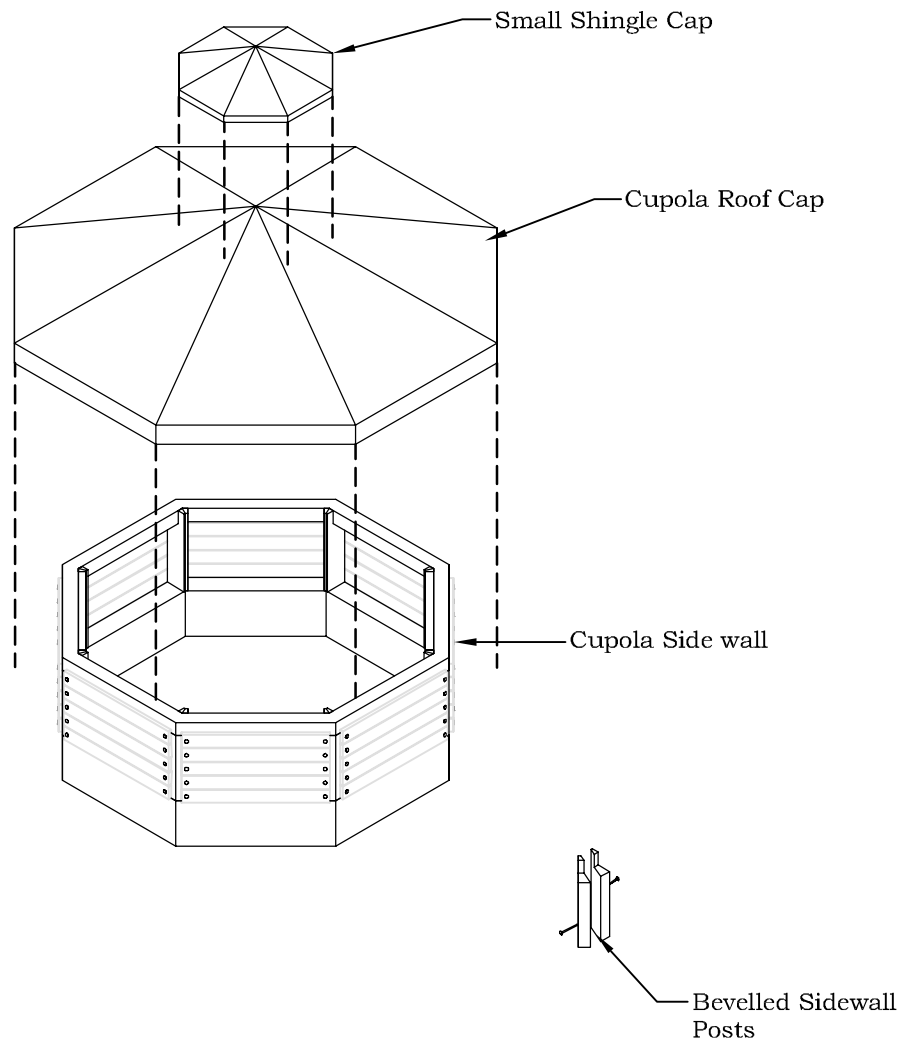

FIGURE S28
- To mount the Cupola on Roof peak, remember to line up the Cupola posts with the Roof Seams. The bottoms of the Cupola Walls have been beveled to seat properly on the Roof. See Figure S28.